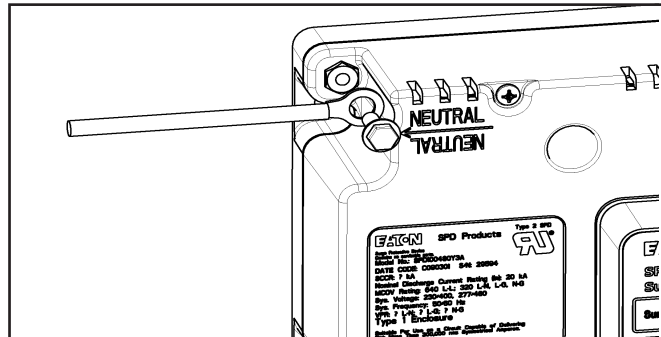

Figure 12. Neutral Connection
- If equipped, connect the System Neutral wire (grey or white) to the SPD. Connect the System Neutral wire to the SPD's Neutral connection using a ring terminal suitable for use with a #10 fastener and a #10-32 x 3/8" fastener (customer supplied). Tighten the Neutral connection to 4.1 Nm (36 in-lbs). There are two Neutral connection points provided on the SPD. Connect **only one** of them. See Figure 12.
7. If equipped, connect the System Neutral wire (grey or white) to the SPD. Connect the System Neutral wire to the SPD's Neutral connection using a ring terminal suitable for use with a #10 fastener and a #10-32 x 3/8" fastener (customer supplied). Tighten the Neutral connection to 4.1 Nm (36 in-lbs). There are two Neutral connection points provided on the SPD. Connect **only one** of them. See Figure 12.